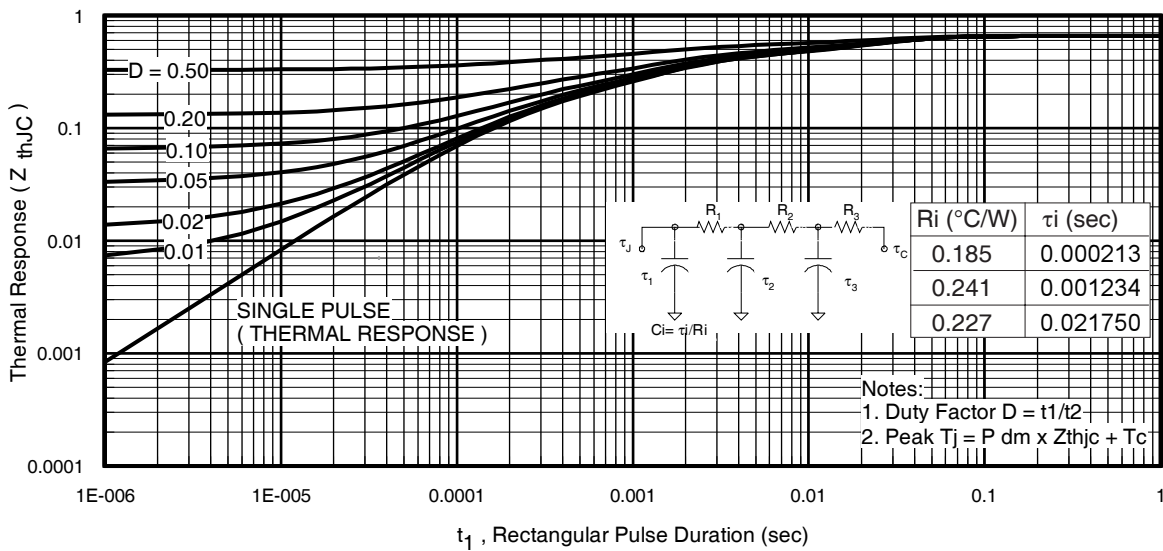
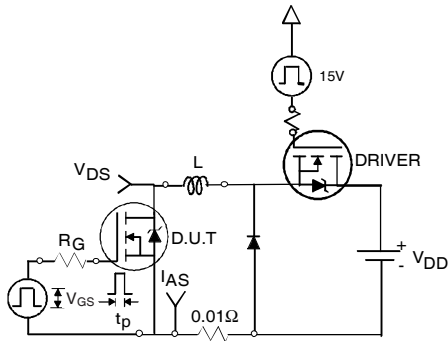

Fig 11. Maximum Effective Transient Thermal Impedance, Junction-to-Case
Fig 12a. Unclamped Inductive Test Circuit
- ① Repetitive rating; pulse width limited by max. junction temperature. (See fig. 11).
- ② Limited by T_{Jmax}, starting T_J = 25°C, L = 0.079mH, R_G = 25Ω, I_{AS} = 75A, V_{GS} = 10V. Part not recommended for use above this value.
- ③ Pulse width ≤ 1.0ms; duty cycle ≤ 2%.
- ④ C_{oss eff.} is a fixed capacitance that gives the same charging time as C_{oss} while V_{DS} is rising from 0 to 80% V_{DSS}.
- ⑤ Limited by T_{Jmax}, see Fig.12a, 12b, 15, 16 for typical repetitive avalanche performance.
- ⑥ This value determined from sample failure population. 100% tested to this value in production.
- ⑦ This is only applied to TO-220AB package.
- ⑧ When mounted on 1" square PCB (FR-4 or G-10 Material). For recommended footprint and soldering techniques refer to application note #AN-994.
3. Equation below based on circuit and waveforms shown in Figures 12a, 12b.
$Z_{thJC}(D, t_{av})$ = Transient thermal resistance, see figure 11)